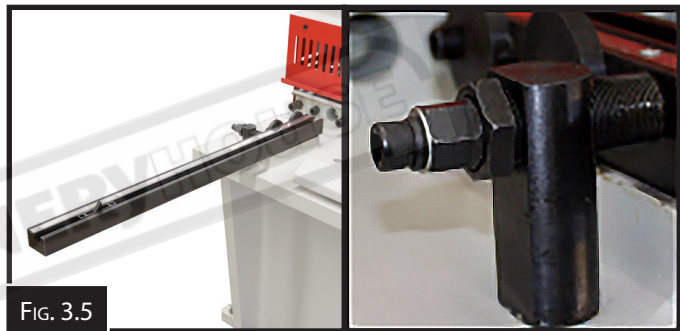

FIG. 3.5
- Place the squaring stops Fig 3.5 into position on the table top, securing into place with the bolts supplied. Check that the square stops are square to the blade. Adjust by loosening the bolts and moving by the adjusting screw and the amount allowed by the clearance-of the holes.